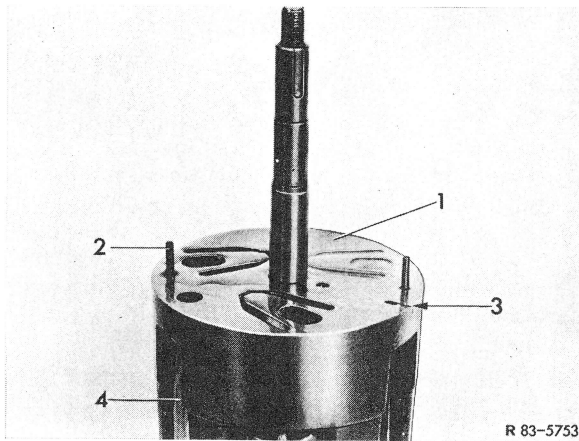

Figure 5
- 20** Place internal mechanism on support block (109 589 01 31 00) (Fig. 5).
- 21** Install new dowel pins (2) in front cylinder half, if they were previously removed (Fig. 5).
- 22** Install front suction valve plate (1) on front cylinder half. Align with dowel pins (2), oil return slot and overflow pipe (Fig. 5).